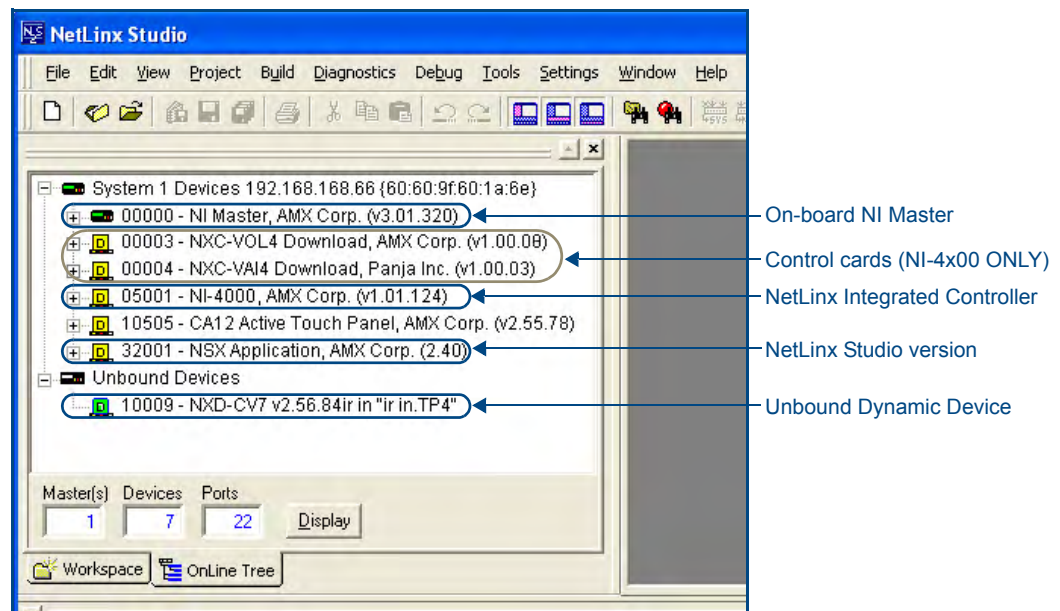

FIG. 5 Sample NetLinX Workspace window (showing OnLine Tree tab)
3. After the Communication Verification dialog indicates active communication between the PC and the Master, verify the NetLinX Master (**00000 NI Master**) appears within the **OnLine Tree** tab of the Workspace window (FIG. 5).